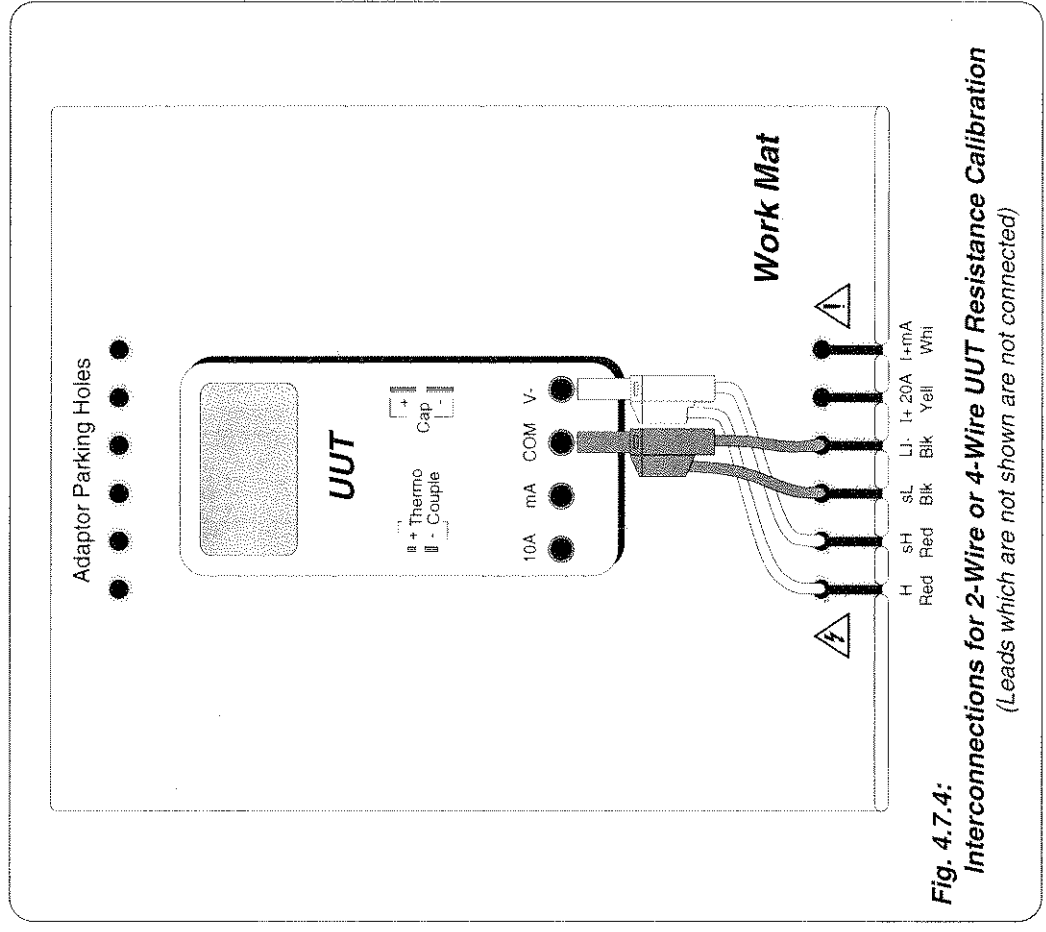

Fig. 4.7.4:
The general connection scheme for UUT calibration is illustrated in Fig. 4.7.4. The use of either 4-wire remote sensing at the UUT terminals, or 2-wire local sensing at the 9100 terminals, is served by the same connections from the 9105 at the work mat. Selection of 2/4-wire is carried out on the 9100 front panel.
1. **Connections** Connect the 9100 to the UUT as shown in *Fig. 4.7.4*, and ensure that both instruments are powered ON and warmed up.